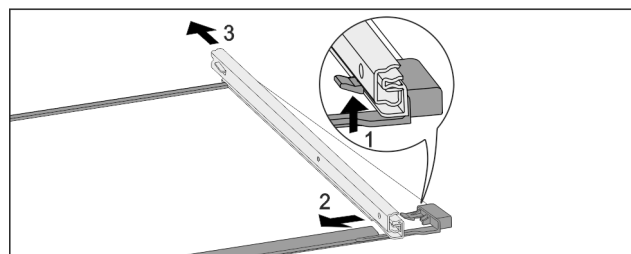

Fig. 157 Glass shelf with rails
- Push up front click-in hooks. Fig. 157 (1)
- Move the pull-out rails to the side Fig. 157 (2) and to the rear Fig. 157 (3).